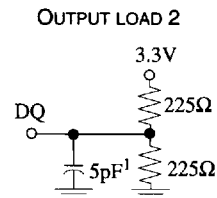

FIG. 2
1. TESTED PER AC TEST LOAD, FIGURE 2 (PAGE 9).